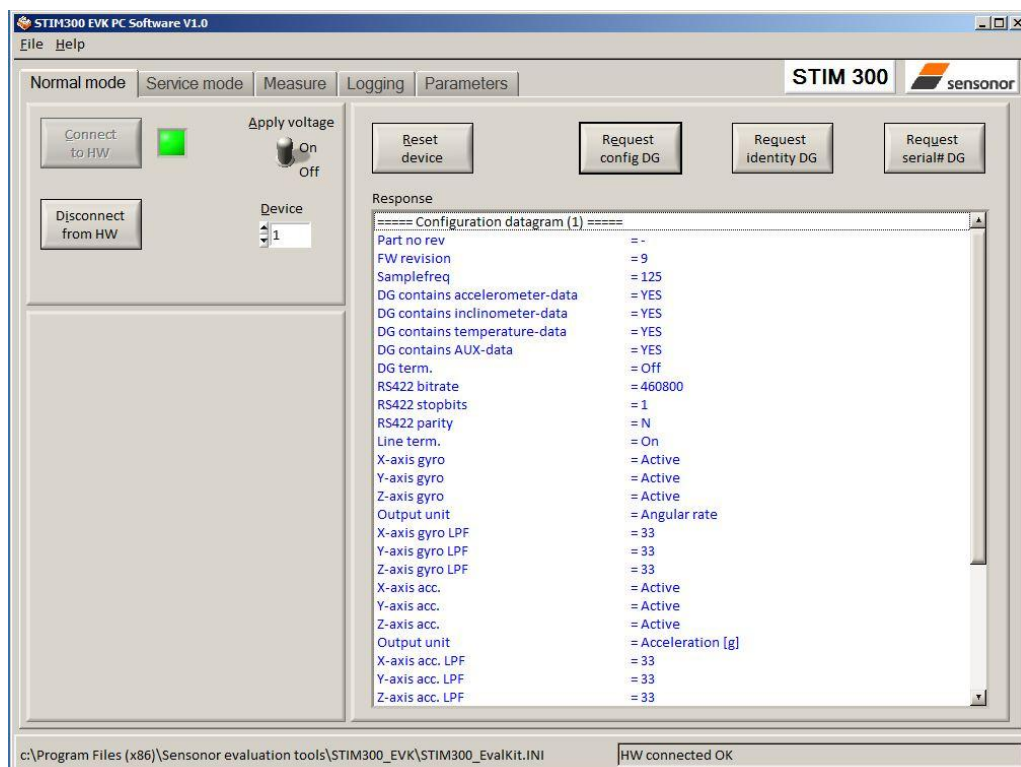

Figure 17: Result of sending 'Request config DG' to the IMU
- Verify the connection to module by clicking on the 'Request config DG' button. An example of such a result is shown in Figure 17. (The kit is now ready for use !)